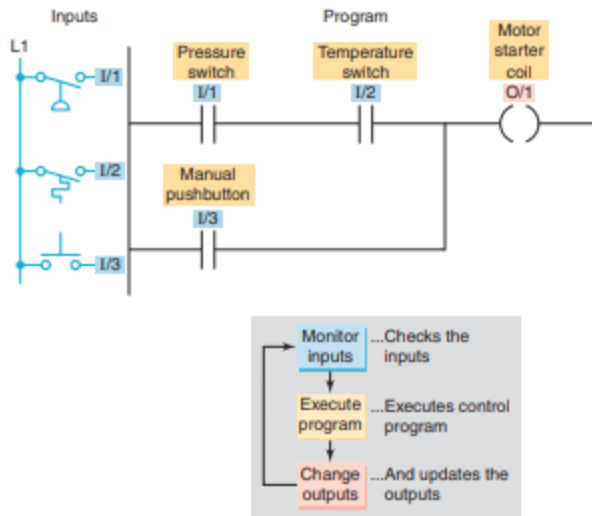

Figure 1-21 Process control PLC ladder logic program with typical
- (1) Pressure switch
- (2) Temperature switch
- (3) Manual pushbutton
13. Answer the following with reference to the process control PLC ladder logic diagram of Figure 1-21: